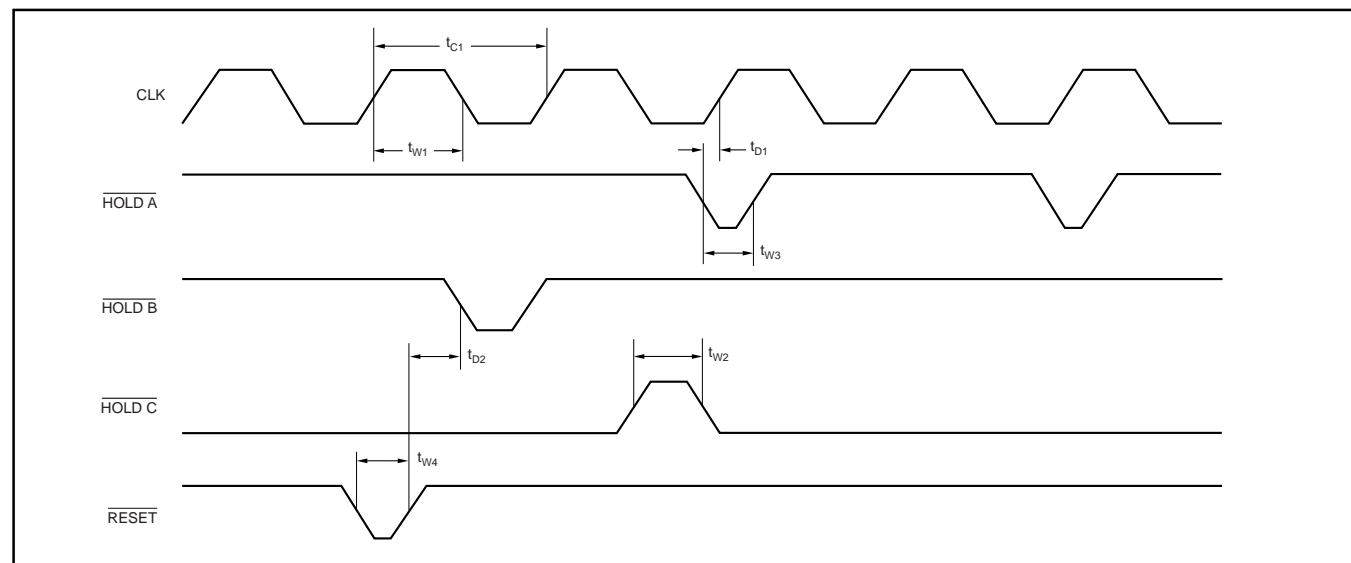

FIGURE 7. Start of the Conversion.
**RESET**—Bringing reset signal LOW will reset the ADS8364. It will clear all the output registers, stop any actual conversions, and will close the sampling switches. The reset signal has to stay LOW for at least 20ns (see Figure 7,  $t_{W4}$ ). The reset signal should be back HIGH for at least 20ns (see Figure 7,  $t_{D2}$ ), before starting the next conversion (negative hold edge).
By bringing one, two, or all of the  $\overline{HOLDX}$  signals LOW, the input data of the corresponding channel X is immediately placed in the hold mode (5ns). The conversion of this channel X follows with the next rising edge of clock. If it is important to detect a hold command during a certain clock-cycle, then the falling edge of the hold signal has to occur at least 10ns before the rising edge of clock, as shown in Figure 7,  $t_{D1}$ . The hold signal can remain LOW without initiating a new conversion. The hold signal has to be HIGH for at least 15ns (as shown in Figure 7,  $t_{W2}$ ) before it is brought LOW again and hold has to stay LOW for at least 20ns (Figure 7,  $t_{W3}$ ).